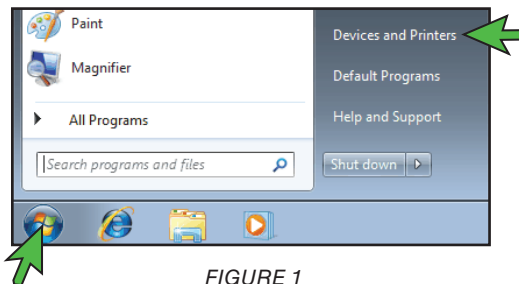

FIGURE 1
1. To view the PowerDriver IQ configuration settings, click your start icon and select **Devices and Printers** (see *FIGURE 1*). If you are using an older version of WINDOWS, you will instead select **Printers and Faxes**.